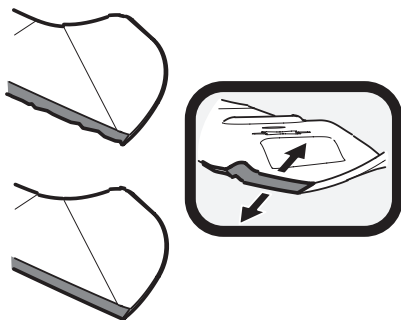

Figure 36
- To properly sharpen the cutting blades, remove equal amounts of metal from both ends of the blades along the cutting edges, parallel to the trailing edge, at a 25° to 30° angle. Always grind each cutting blade edge equally to maintain proper blade balance. See Figure 36.